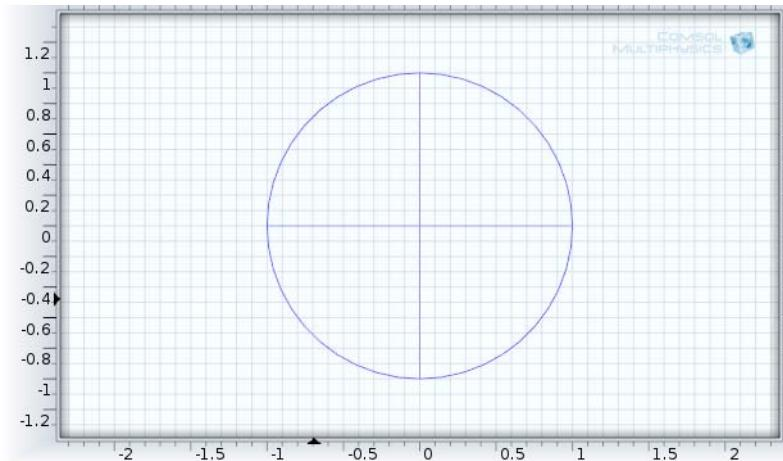
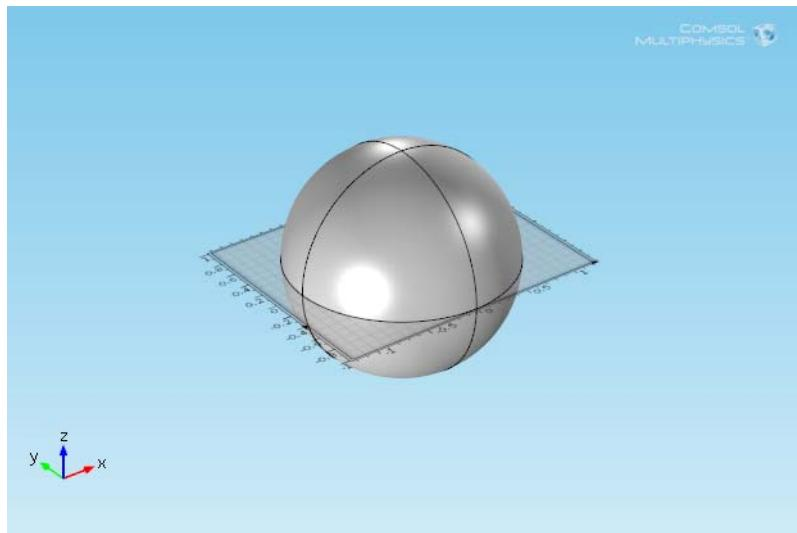

Figure 5-2: The Graphics window displaying the Work Plane Geometry without the Draw on work plane in 3D check box selected.
Figure 5-3: The Graphics window displaying the Work Plane Geometry with the Draw on work plane in 3D check box selected.
- 3 On the **Work Plane** settings window under **Work Plane>3D projection**, select the **Draw on work plane in 3D** check box. See Figure 5-2 and Figure 5-3 to see what happens when the check box is selected.
- 4 Under **Work Plane**, click the **Plane Geometry** node. The geometry displays in the **Graphics** window. See Figure 5-3 for an example.